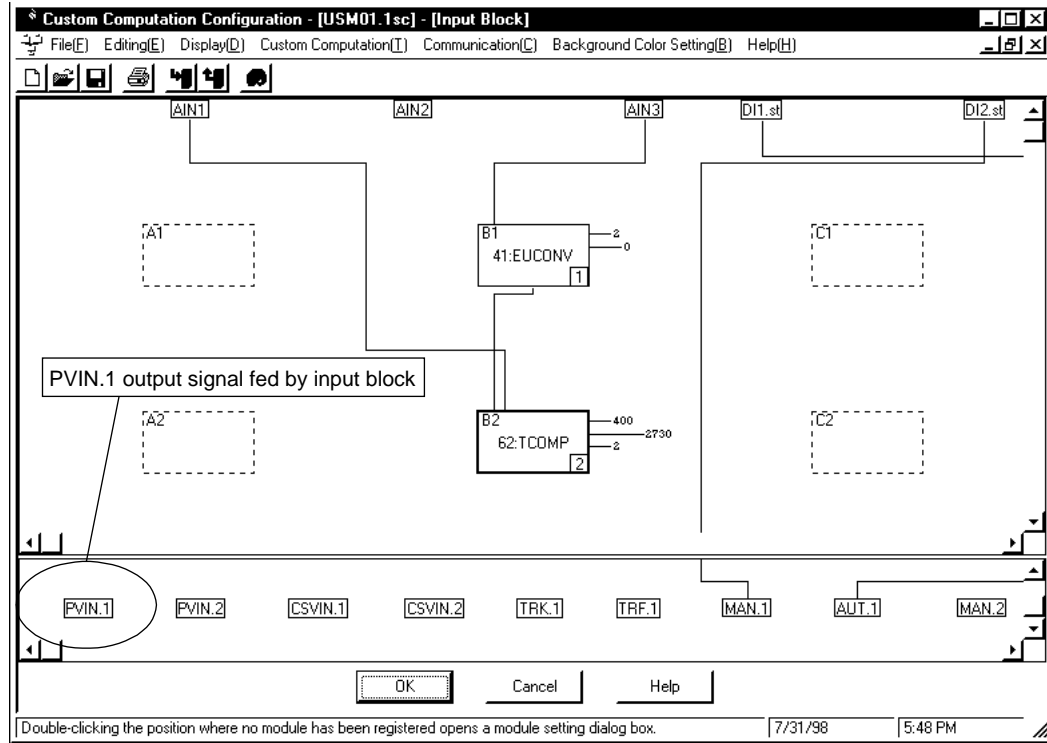

Figure 12.4.10 Output Signal Fed by Input Block
- ① In the [Input Block] dialog box (Figure 12.4.10), click the <PVIN.1> output signal.